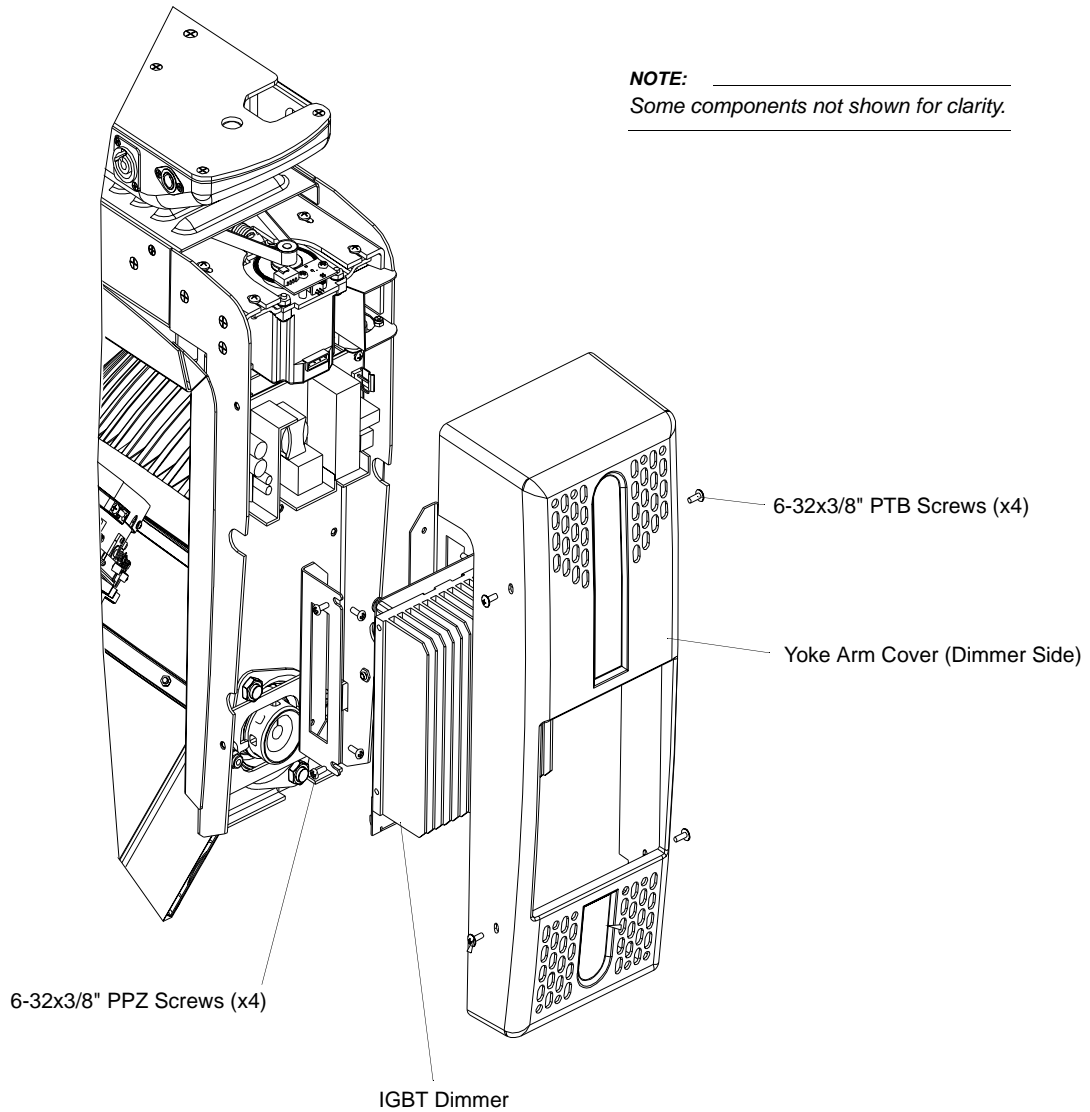

Figure 22: IGBT Dimmer Replacement (VL550D Only)
- Step 3. As shown in **Figure 22**, at dimmer, loosen, but do not remove, four 6-32x3/8" PPZ screws.